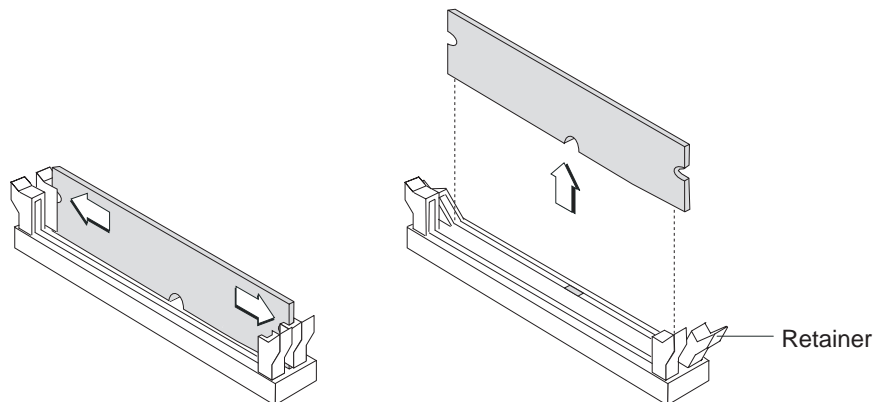

Figure 15. Memory module removal and insertion
6. Touching only the top corners of the module, align the connector tabs and press the module down firmly. The white tabs at the ends of the socket will close as you insert the module. See Figure 15.